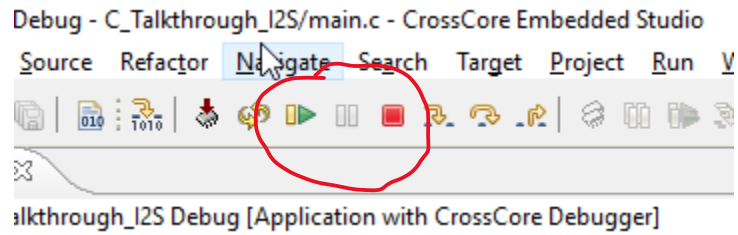

Figure 18 Starting the program
6. Start development of the program using typical tools like: *Resume*, *Step*, breakpoints, expression and variables watching etc. (Figure 18)